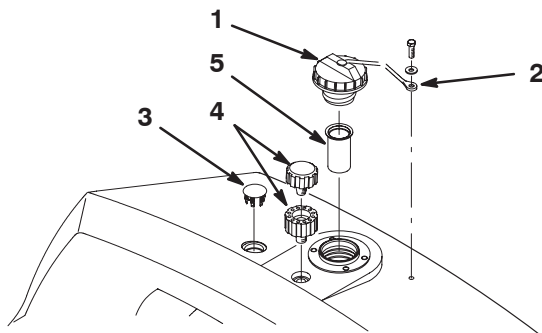

Figure 1
1. Remove the hydraulic cap, cap tether retaining bolt, and washer from the main hydraulic tank (Fig. 1).
2. Remove the plastic insert plug from the main hydraulic tank (Fig. 1).
4. Remove the breather and breather extension from the top of the main hydraulic tank (Fig. 1).
7. Remove the filler screen (Fig. 1) and place it in the neck of the auxiliary tank.